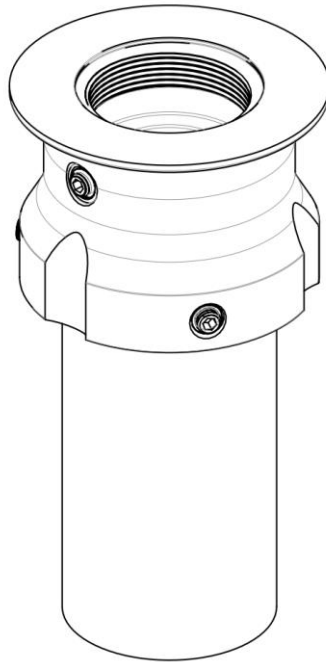
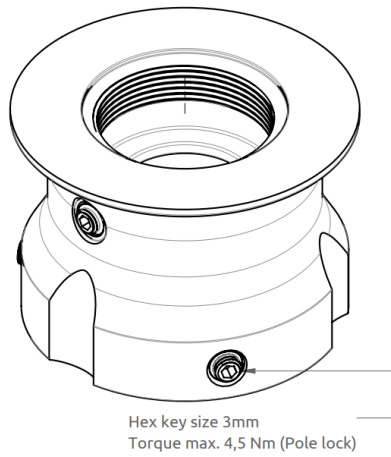
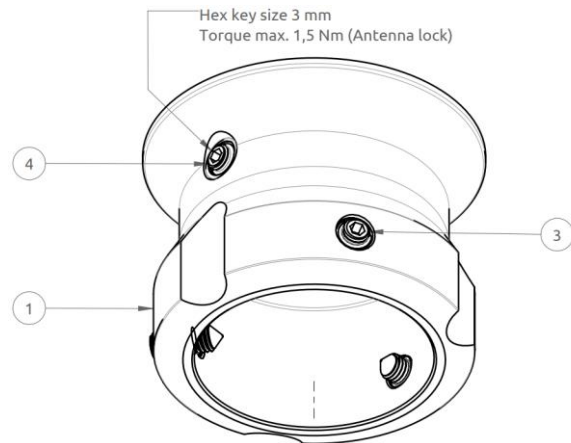

Figure 21: Pole Mount (2.0" pipe), Antenna Unit.
Figure 22: Pole Mount (2.0" pipe), Antenna Unit.
Figure 23: Pole Mount (2.0" pipe), Antenna Unit.
The Pole Mount (2.0" pipe, Ø53.0mm), Antenna Unit is illustrated in Figure 21 to Figure 23.
9. Screw the pole mount (clockwise) on the LT-4130 Antenna Unit, and fasten the antenna lock pinot screw, as illustrated in Figure 23 (max torque = 1.2 Nm)
10. The LT-4130 Antenna Unit and pole mount can now be mounted on the 2.0" pipe. Fasten the three pole lock pinot screws, as illustrated in Figure 22 (max torque = 4.5 Nm)
The Pole Mount (2.0" pipe, Ø53.0mm), Antenna Unit only supports a 2.0" pipe. The pinot screws (antenna and pole lock) torques are specified in Figure 22 and Figure 23. The pole mount is made of milled aluminum (anodized). The pinot screws are made of A4 stainless steel.